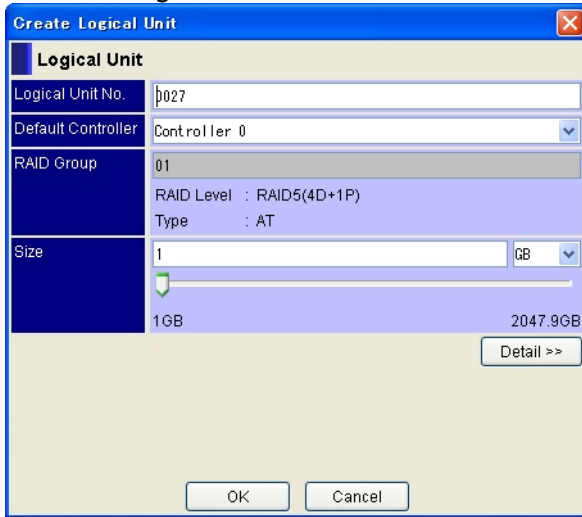

Figure 7-8 Setting the Logical Unit Property
2. The logical unit settings are updated and the Create Logical Unit dialog box displays (see Figure 7-8).